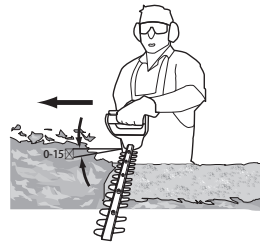

Fig. 7
7. After cutting the sides proceed to the top. Try to keep the cutting device angled at approximately 15° to the cutting surface (Fig. 7).